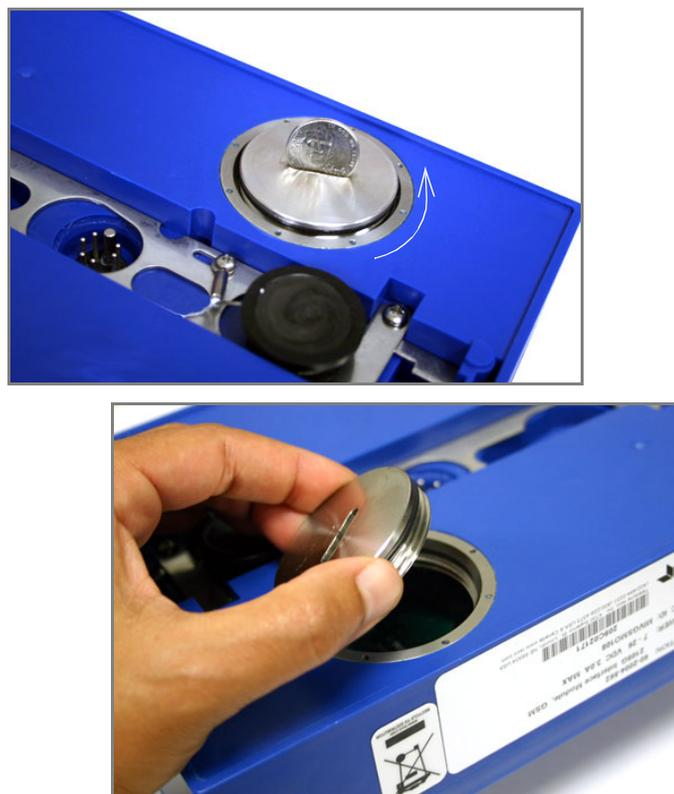

Figure 3-2 Accessing the SIM card on the bottom of the module
1. Turn the 2105 LTE module over. On the bottom is the round metal cover of the compartment giving access to the card. The cover is most easily removed by placing a coin in the center slot and turning counterclockwise (Figure 3-2).